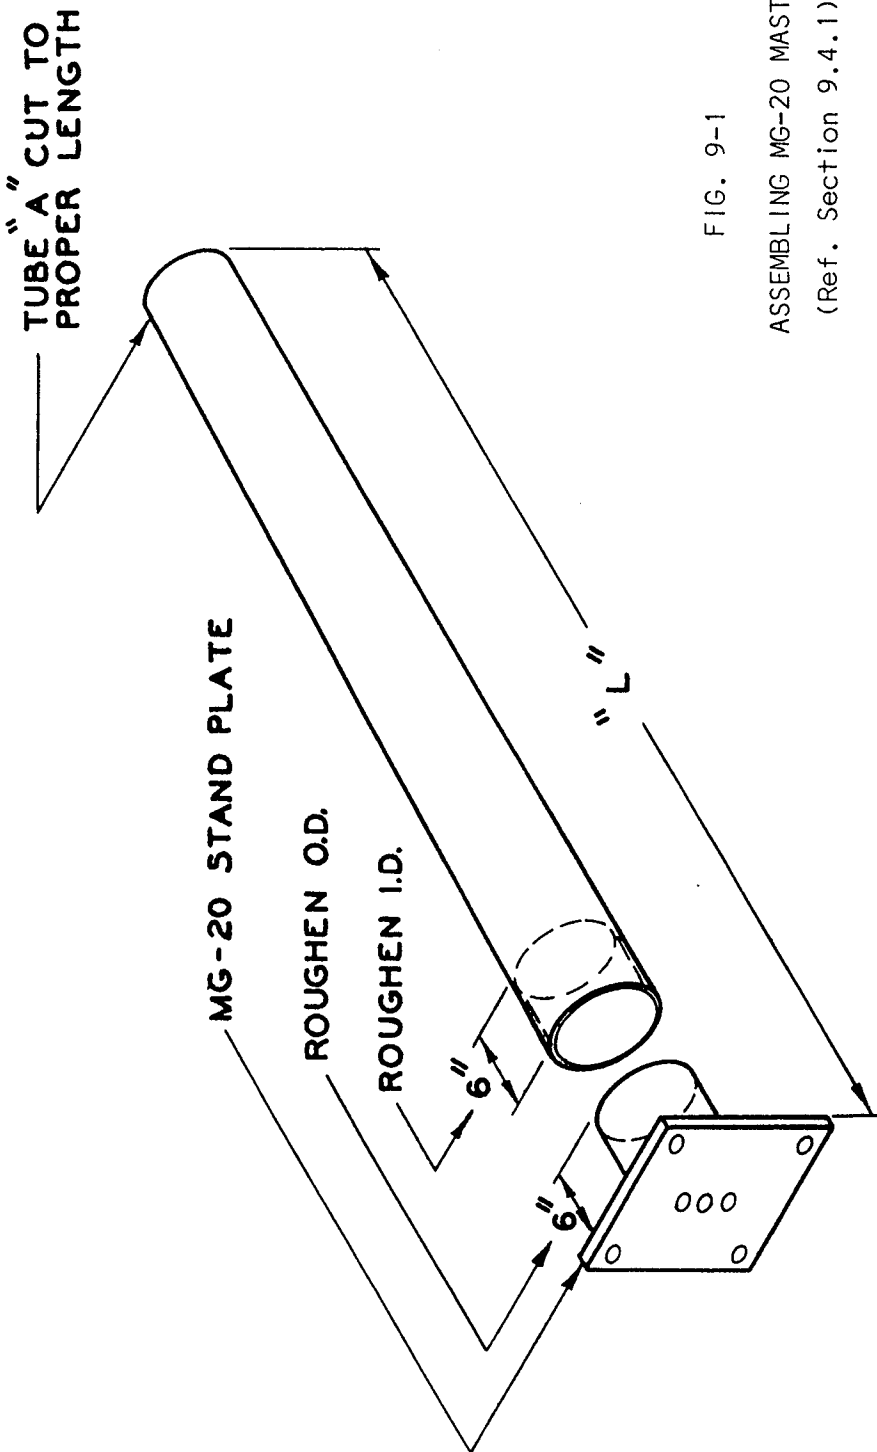

FIG. 9-1
- B. Cutting and Bonding Schedule: See Figures 9-1 through 9-3. Cut tube lengths from Tube "A" or Tube "B" (Item 12 or Item 13 respectively) as required, using a table saw with a diamond or carbide abrasive blade. All saw cuts shall be at a right angle to the tube axis. Deburr saw cut edges with a file. For bonding, roughen surfaces to be bonded, as shown in Figures 1, 2, and 3, using 80 or 100 grit emery cloth. Clean roughened surfaces thoroughly with a solvent (methyl ethyl ketone or acetone). Mix equal parts of Chemlok 304-1 (Chemlok 304-1 resin and Chemlok 304-2 hardener are available through Jaquith Industries Inc., Part No. L7012) Epoxy Resin and 304-2 (Jaquith Part No. L7012) Hardener, mix thoroughly but avoid air inclusion. For each joint to be bonded, spread a thin coat of mixed adhesive on both surfaces to be bonded.